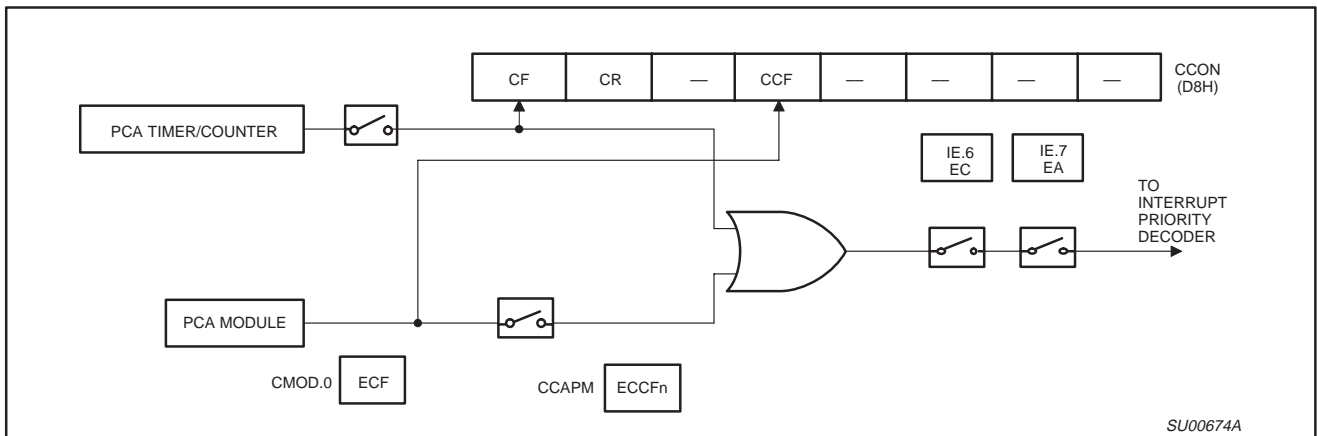
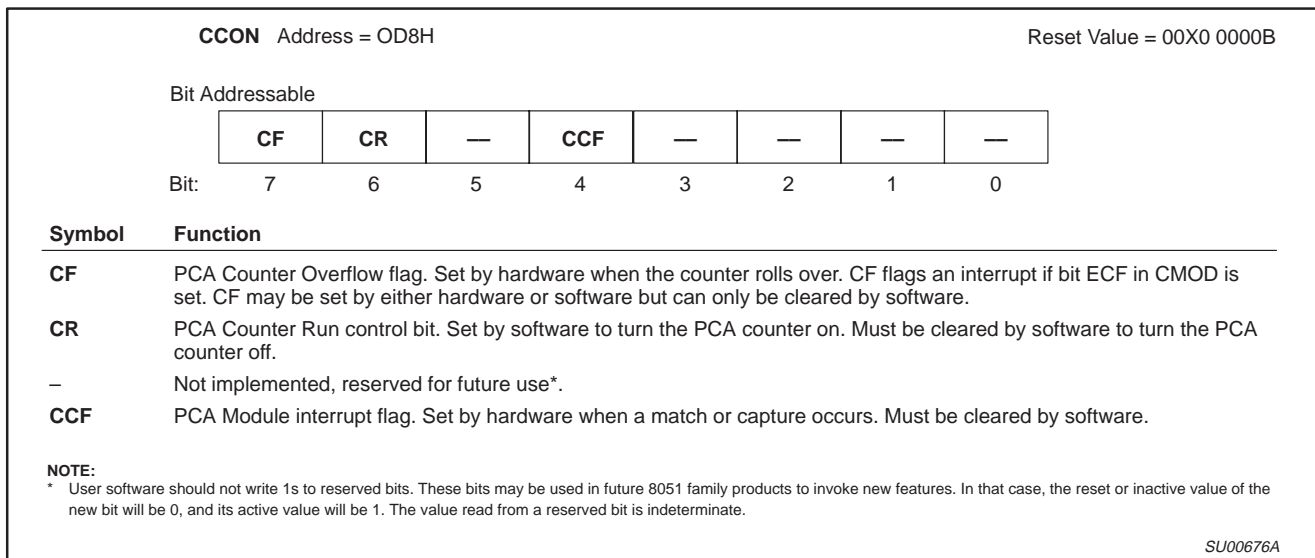

Figure 7. PCA Interrupt System
Figure 9. CCON: PCA Counter Control Register
The CCON SFR contains the run control bit for the PCA and the flags for the PCA timer (CF) and module (refer to Figure 9). To run the PCA the CR bit (CCON.6) must be set by software. The PCA is shut off by clearing this bit. The CF bit (CCON.7) is set when the PCA counter overflows and an interrupt will be generated if the ECF bit in the CMOD register is set. The CF bit can only be cleared by software. Bit 4 of the CCON register is the flag for the module and is set by hardware when either a match or a capture occurs. This flag can only be cleared by software. The PCA interrupt system shown in Figure 7.